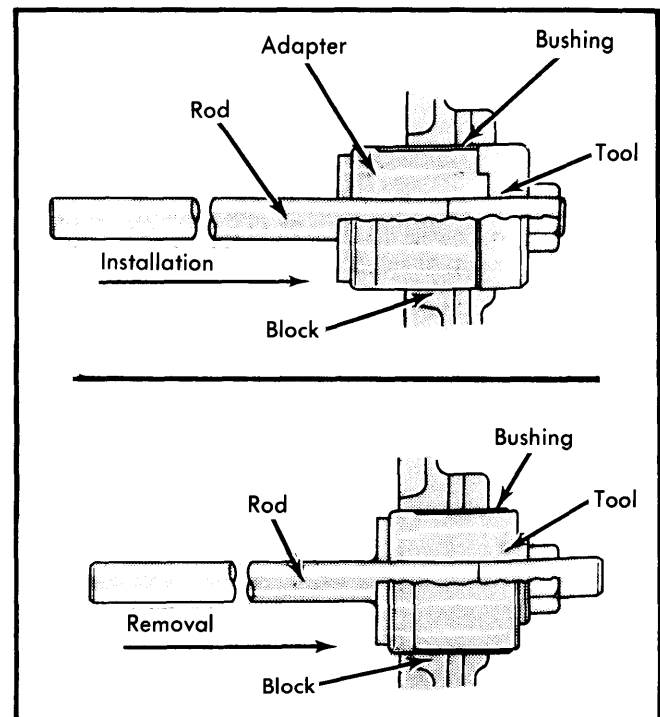

Fig. 15 Camshaft Bearing Removal and Installation
**Removal & Installation** – Use camshaft bearing removal/installation tool (MH061070) to remove bearings as shown in Fig. 15.